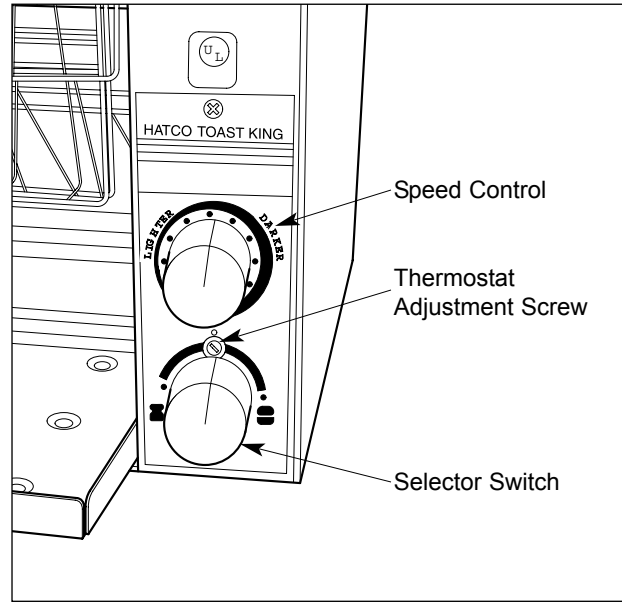

Figure 7. Control Panel
2. Turn the Selector Switch, located on the front panel, to “Toast” or “Buns”. See Figure 7.
Using a small screwdriver, turn the adjustment screw (Figure 7) clockwise to increase temperature or counter-clockwise to decrease the temperature.